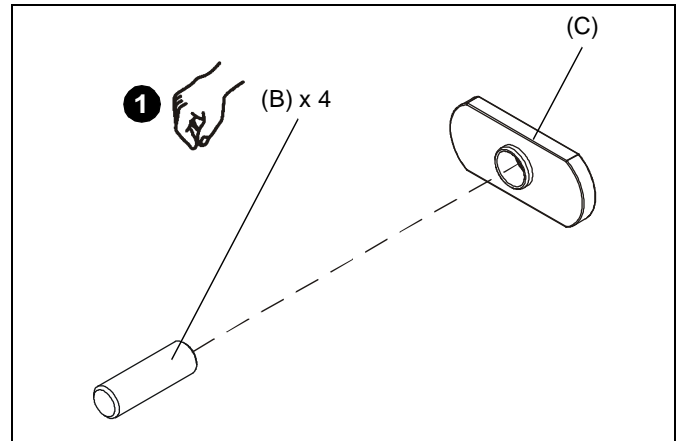

Figure 3
1. Install threaded stud (B) into slide nut (C). (See Figure 3)